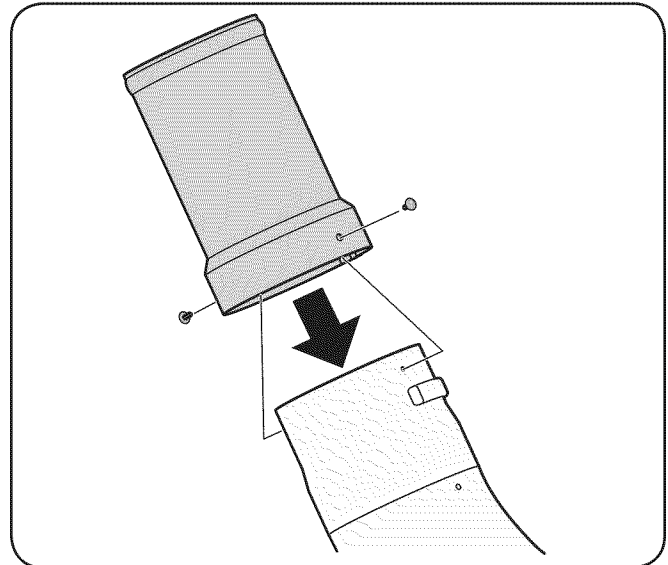

Figure 4-25
7. Install the chute adapter onto the chute elbow by lining up the tabs and sliding the adapter over the chute elbow, as in Fig. 4-25. Secure the chute adapter by installing the two ratchet clips included in the hardware pack into the holes provided.